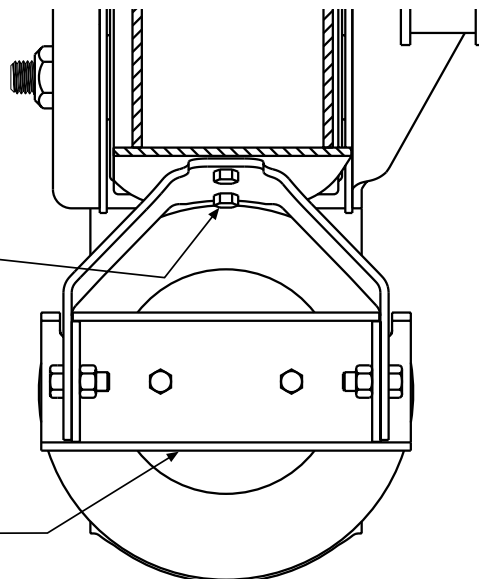

Figure 4. Positioning the lift bracket
1. Install lift bracket to the bottom of the beam with two self-tapping screws (Figure 4). Torque the screws to 160 to 180 in-lbs (18 to 20 N•m).